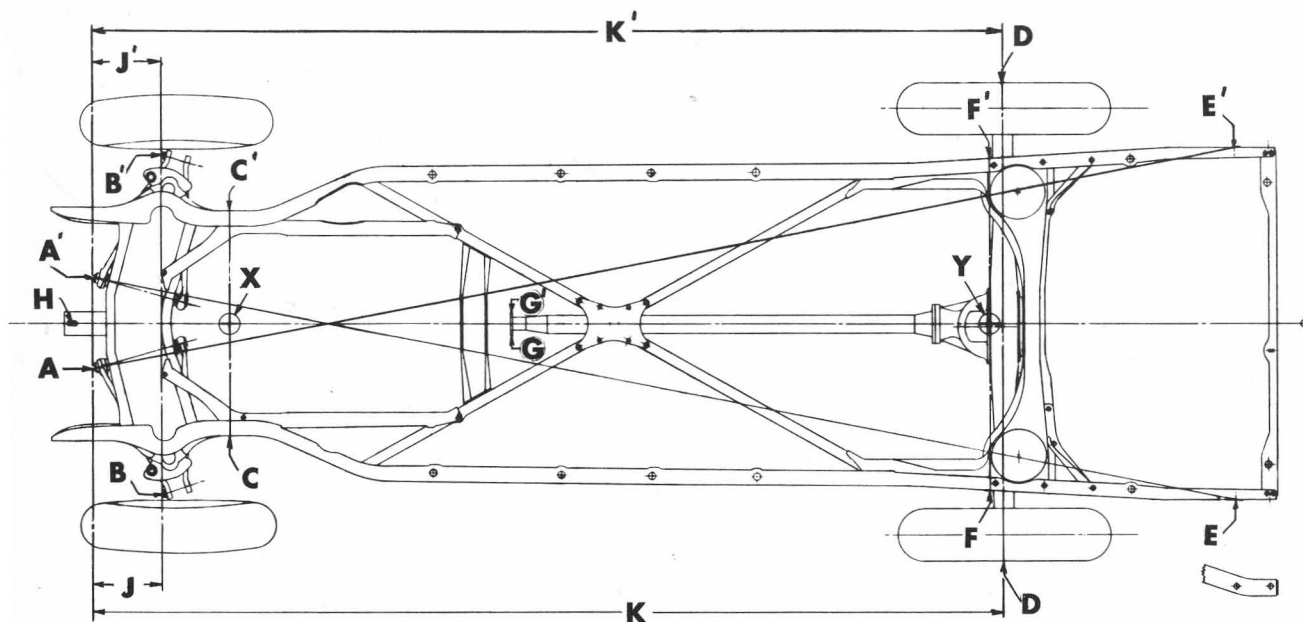

Figure 9-2—Checking Points for Frame and Suspension Alignment
1. Using a plumb bob, extend the following points to the floor and mark where point of plumb touches floor, as shown in figure 9-2.